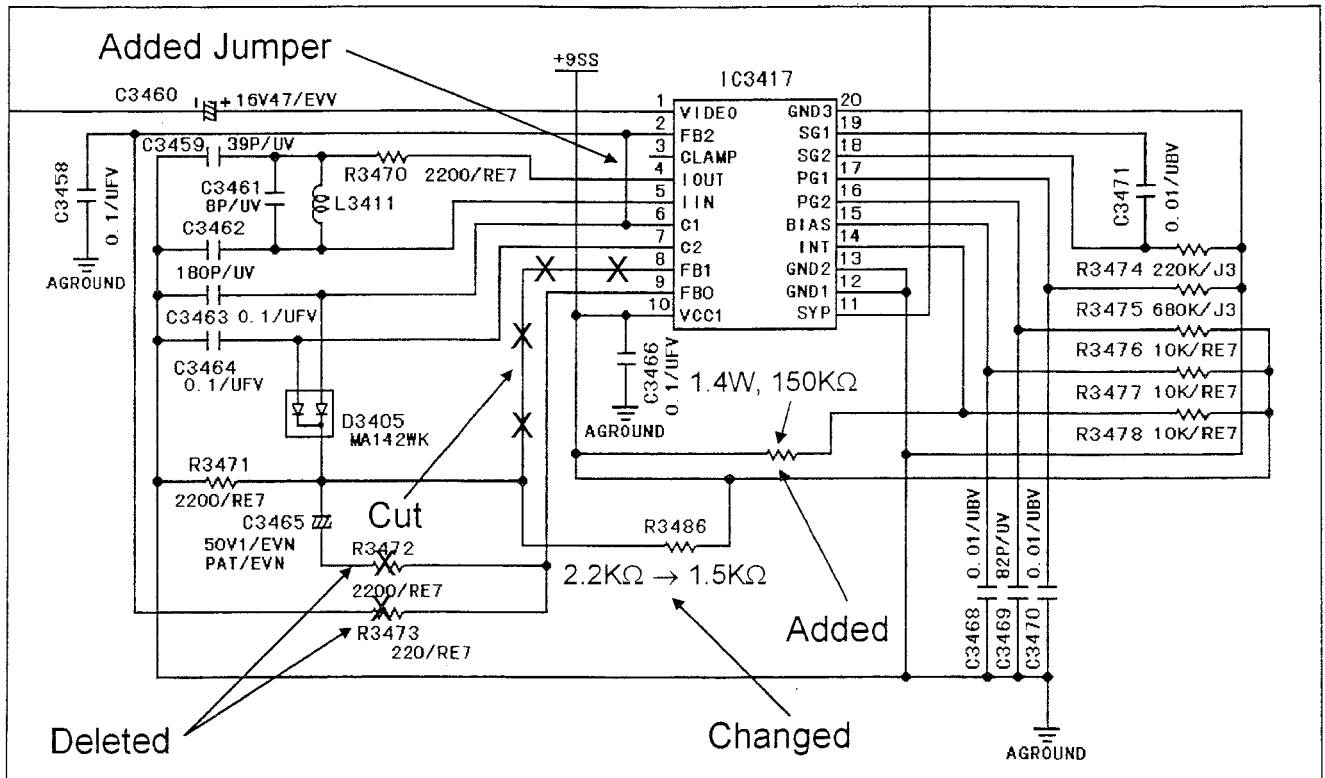

Fig. 4 Page 2-106 (A~B-2~5)
- 1). Delete resistors R3472 (1/16W, 2.2K Ω) and R3473 (1/16W, 220 Ω) from the foil side as shown in figure 4.
- 2). Change resistor R3486 from 1/16W, 2.2K Ω to 1/16W, 1.5K Ω on the foil side as shown in figure 4.
- 3). Float the leg of pin #8 of IC3417 and then cut it on the component side as shown in figures 4 and 5.
- 4). Add a resistor (1/4W, 150K Ω) between pins #10 and #14 of IC3417 on the component side as shown in figures 4 and 5.
- 5). Connect a jumper wire between pins #2 and #6 of IC3417 on the component side as shown in figures 4 and 5.
- 2). Change resistor R3486 from 2.2K Ω to 1.5K Ω on the foil side as shown in figure 4.
- 4). Connect a jumper wire between pins #2 and #6 of IC3417 on the component side as shown in figures 4 and 5.